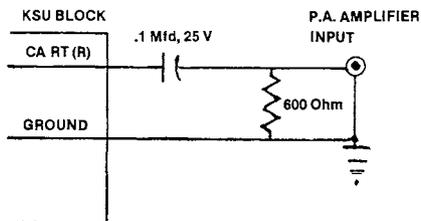

Fig. 17 — Wiring Connections For Voice Paging With A System Using Call Announcers
- 4.12 Connect the CA RT lead assigned to voice paging to one amplifier input and ground to the other amplifier input using interface circuit shown in Figure 17.